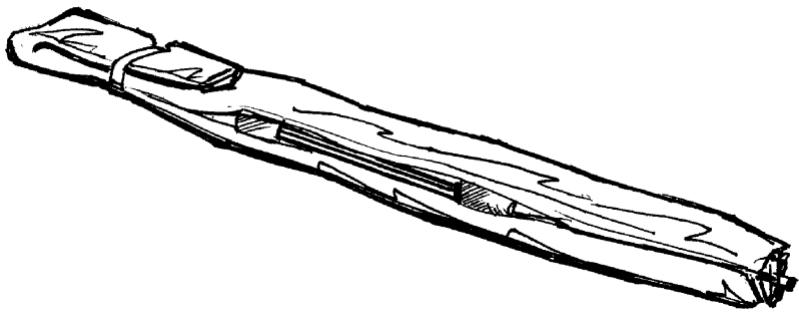

Fig. 47
4.2.3. Place the leading edge of the sail over the other one and bend the sail to the nose (Fig. 47). Attach it by a tighten tape in the direction the mylar wants to fold.